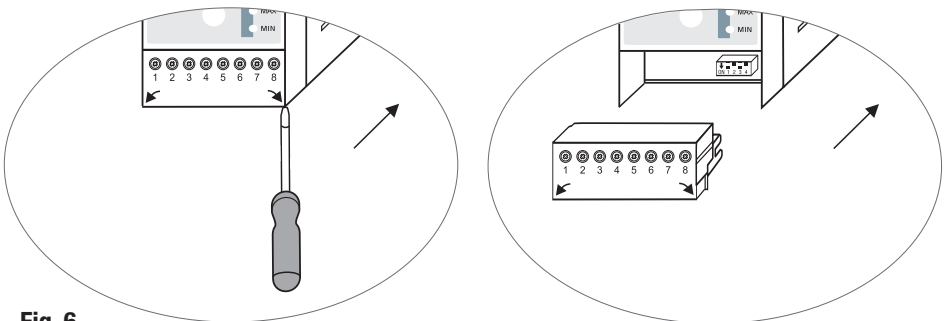

Fig. 6
- Remove the lower and upper terminal strips. **Fig. 6**